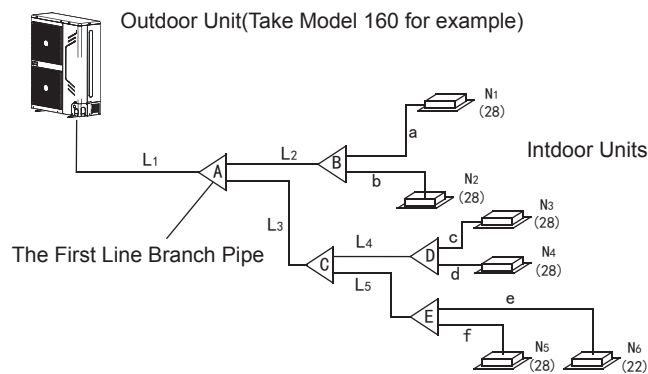
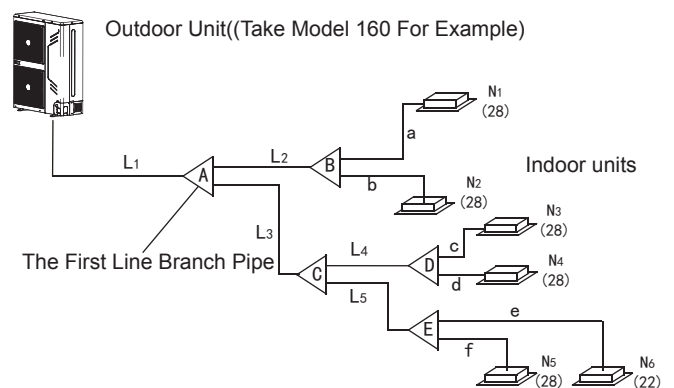
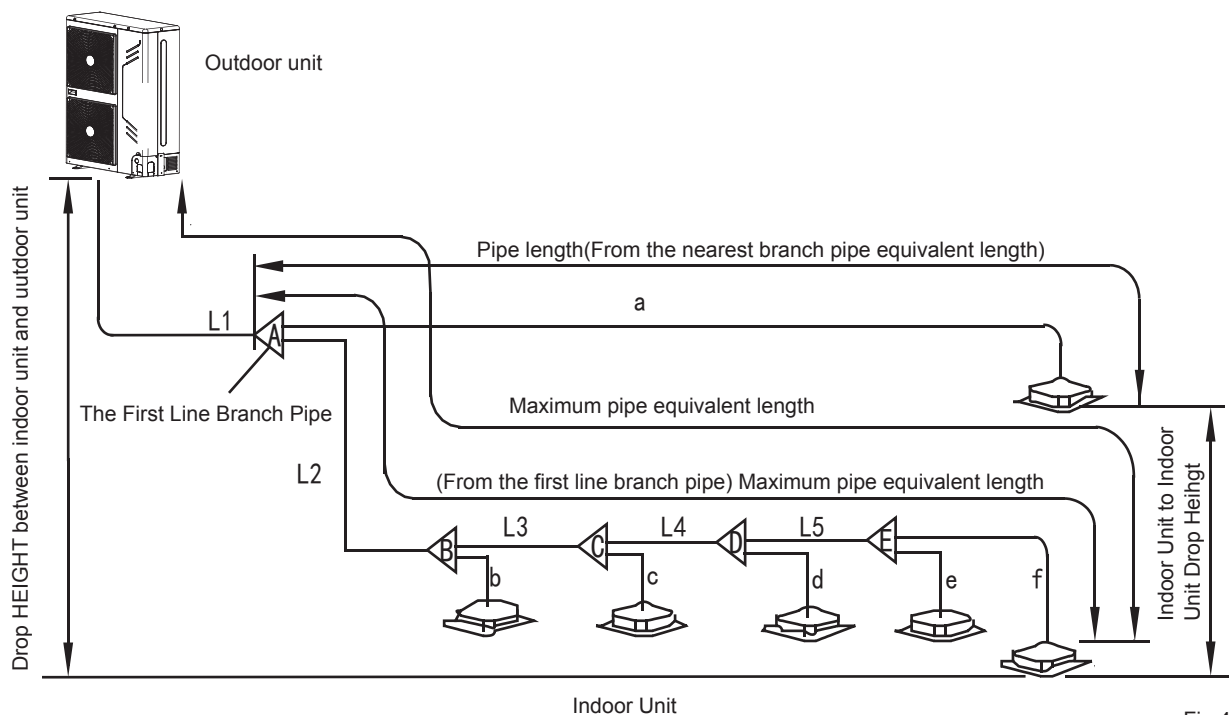

Fig. 4-5
Fig.4-6
Fig.4-7
- 2) Example 1: In the Fig.4-5, The downstream inner units of the L2, and its total capacity is $28 \times 2 = 56$, refers to the Table 4.4, the air/liquid side of L2 is: $\Phi 15.9/\Phi 9.5$.
- Main pipe (Please refer to Fig.4-5 and Fig.4-7)
In Fig.4-6, the main pipe L1, the outdoor unit capacity is 16kW, and check the Fig.4-7 to get the size of gas pipe/liquid pipe is $\Phi 19.1/\Phi 9.5$, and also the total equivalent length of liquid side and gas side pipes is $> 90\text{m}$, then check the Fig.4-4 to get the size of gas pipe/liquid pipe is $\Phi 22.2/\Phi 9.5$, and according to the maximum value principle, it should apply the $\Phi 22.2/\Phi 9.5$.